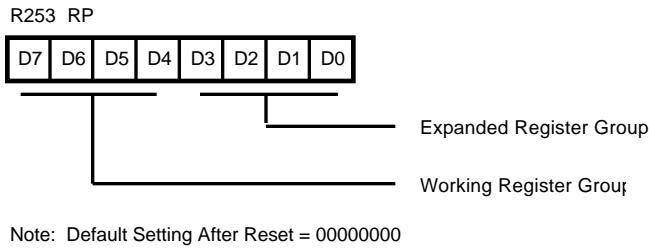
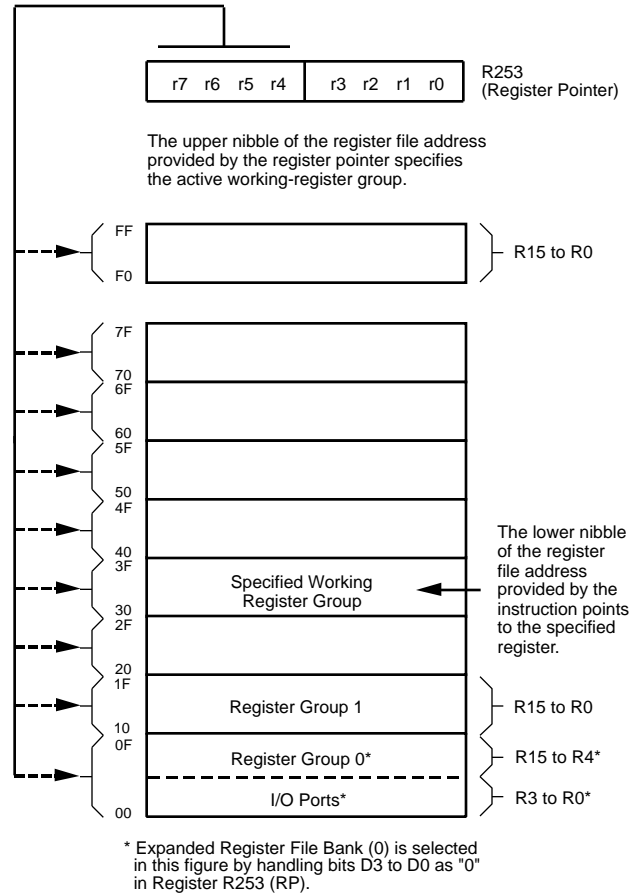

Figure 17. Register Pointer Register
Figure 18. Register Pointer
**Register File.** The Register File consists of three I/O port registers, 237 general-purpose registers, 15 control and status registers, and four system configuration registers in the Expanded Register Group (Figure 16). The instructions can access registers directly or indirectly through an 8-bit address field. This allows a short 4-bit register address using the Register Pointer (Figure 18). In the 4-bit mode, the Register File is divided into 16 working register groups, each occupying 16 continuous locations. The Register Pointer (Figure 17) addresses the starting location of the active working-register group.